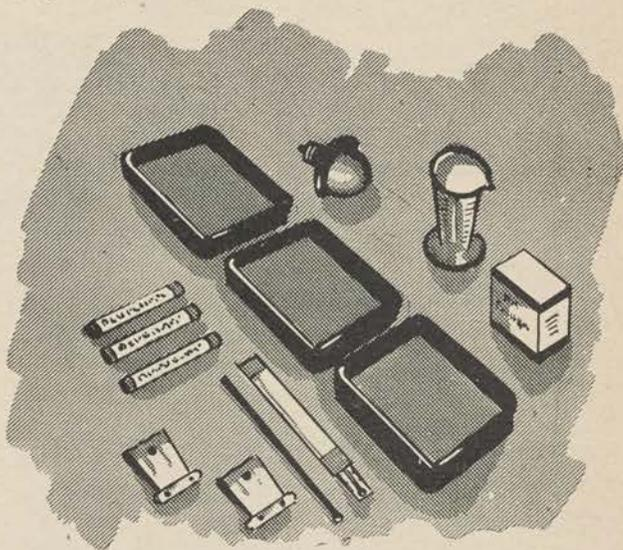

Figure 274.
h. The materials needed for tray development (fig. 274) are: